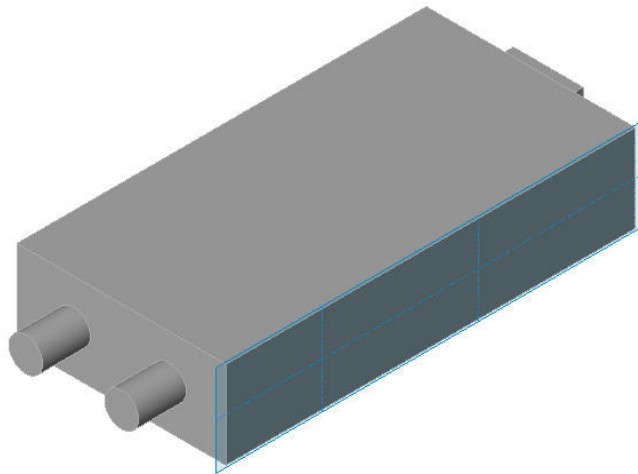

Figure 39. Establishing the Work Plane for the first Control Box.
5. Click **Show** from the *Create* ribbon to verify that your Work Plane matches the one in Figure 39, then click **Show** again to turn off the Work Plane display.